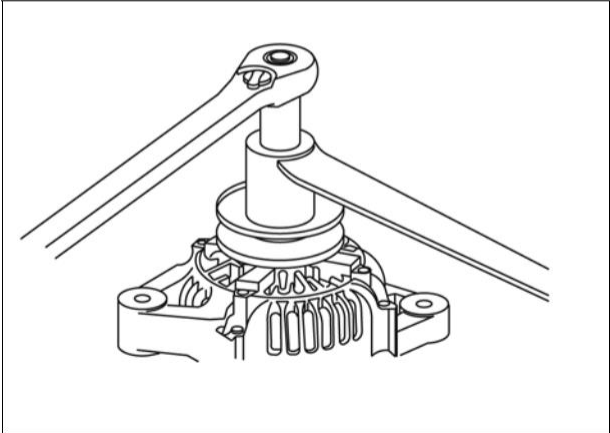

Figure 20
- 3. Remove nut and insulator at "B" terminal (A, Figure 20). Remove three screws and brush cover (B).